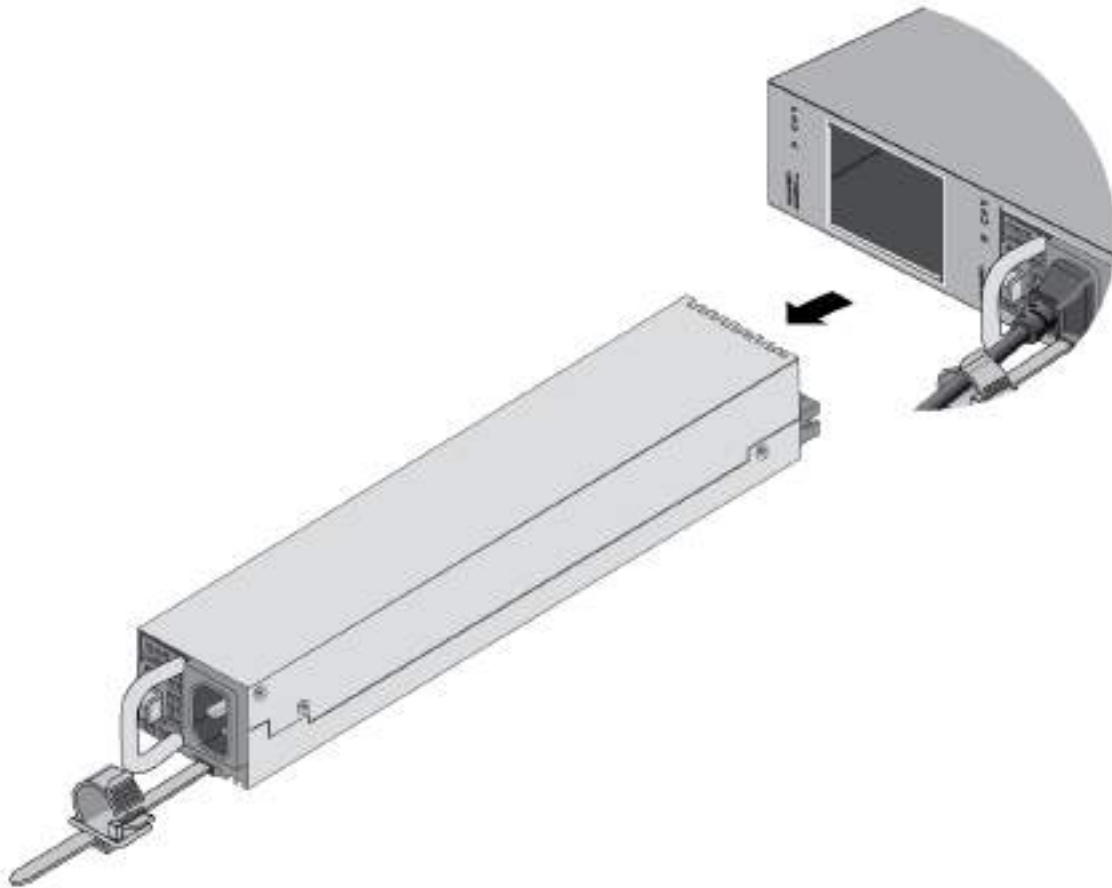

Figure 132. Removing a Power Supply
5. Carefully slide the power supply from the switch. Refer to Figure 132 on page 190.